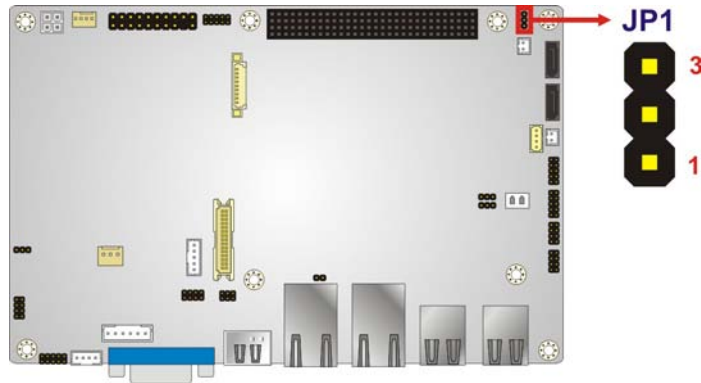

Figure 4-13: PCI-104 Power Select Jumper Location
Step 2: Connect the Power Cable to the Motherboard. Connect the 4-pin (2x2) Molex type power cable connector to the AT/ATX power connector on the motherboard. See Figure 4-13.